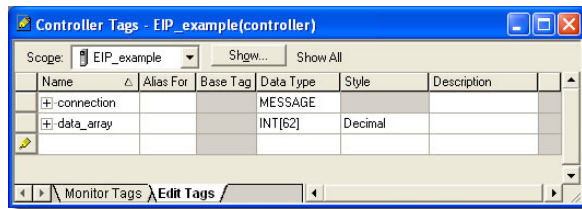

Figure 55: Create New Tags
- The “Controller Tags” window appears. Refer to Figure 55.